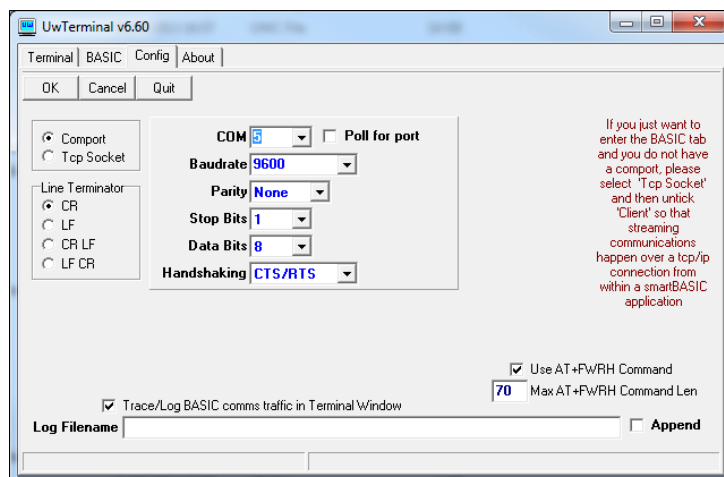

Figure 3: Comms Settings
5. Configure the COM port with the port number seen in the device manager with the following settings (Figure 3):